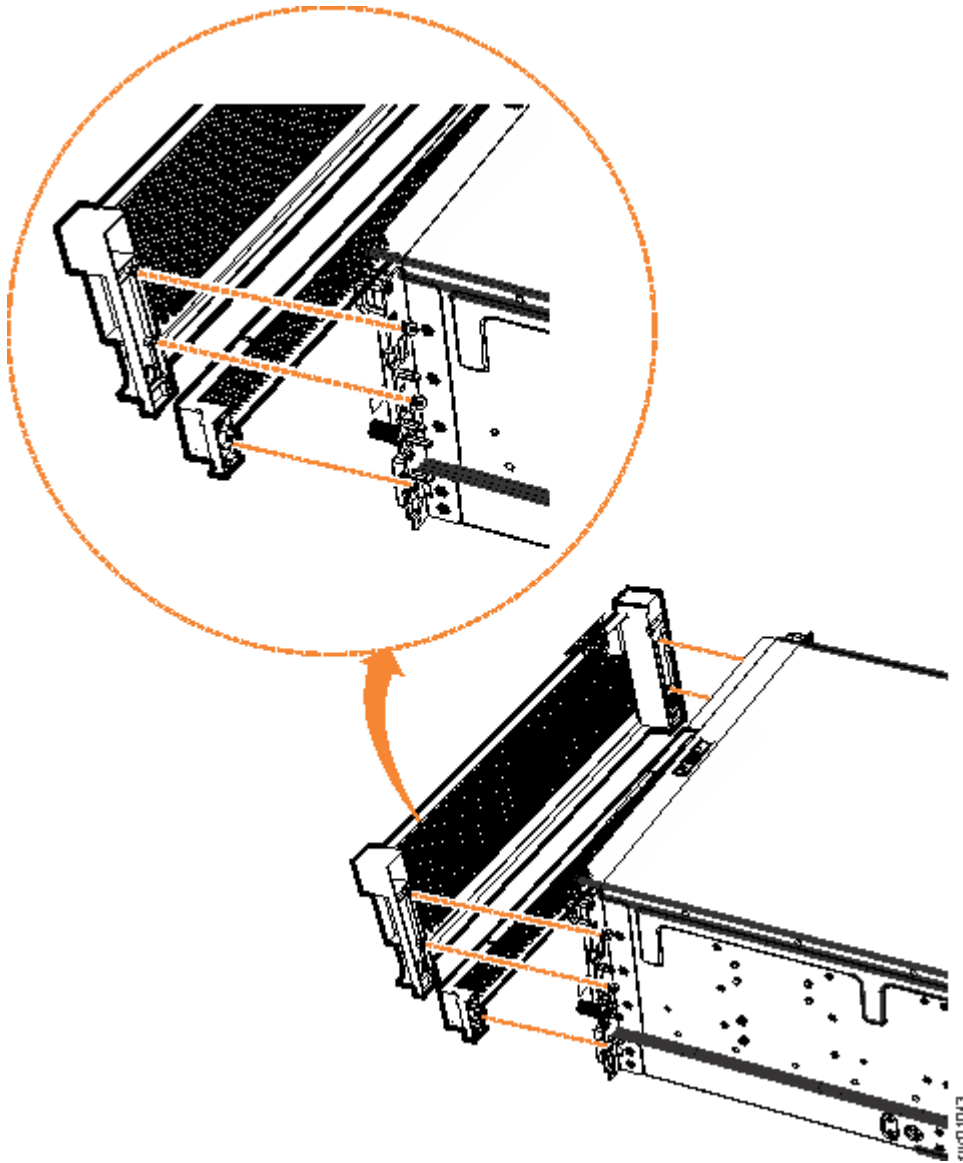

Figure 80. Replace fascia components on the expansion enclosure
1. Align the front 4U fascia with the enclosure so that the thumbscrews go through the holes on each side. As Figure 80 on page 70 shows, this action aligns the screw holes on the back of the fascia with the screw holes on the front flange of the enclosure.
3. Reattach the bottom 1U fascia that covers the power supply units (PSUs). Align the fascia with the enclosure and gently push it until it clicks into place on the chassis, as shown in Figure 80 on page 70.